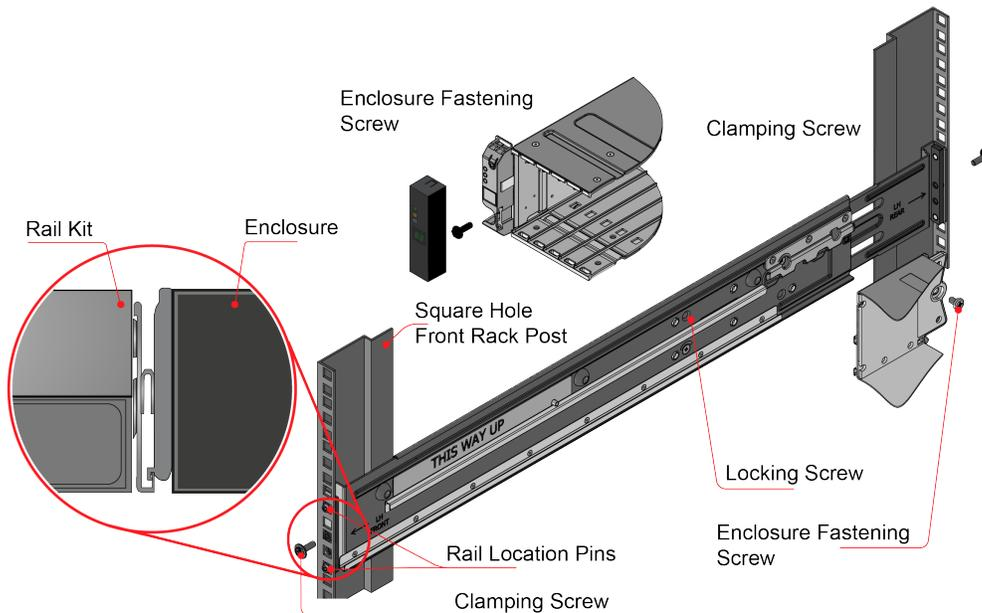

Figure 39. Securing Brackets to Rail
2. Use the procedure given below to attach the rack brackets to the rack posts (see Figure 39 “Securing Brackets to Rail ” on page 37):